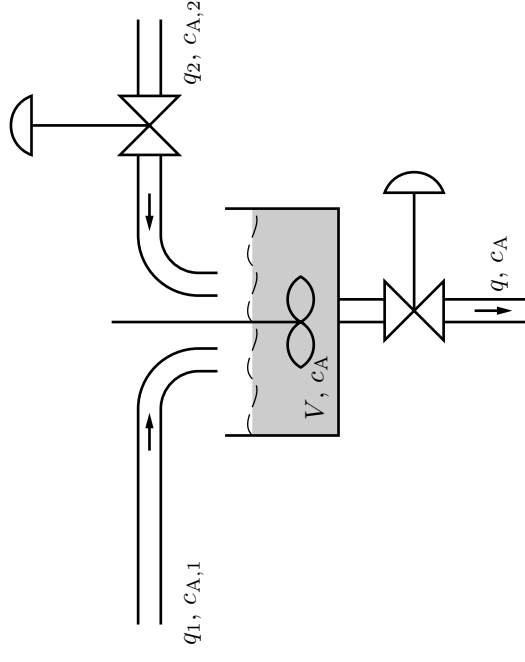

Figure 2.12a
2.12 Two flows with different concentrations of a chemical component A are mixed in a continuously stirred tank, see Figure 2.12a. The volume can be assumed constant,  $V = 1 \text{ m}^3$ .